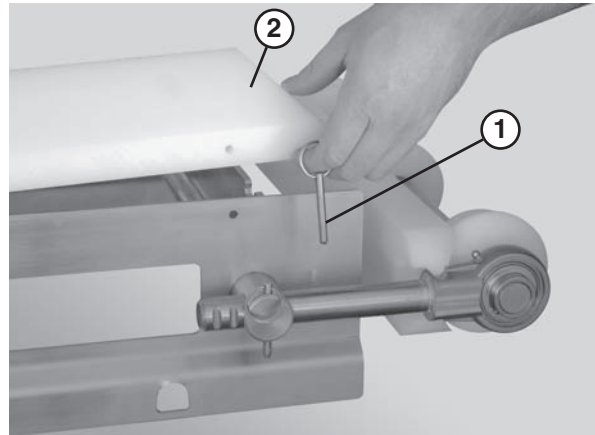

Figure 44
1. Remove the pull pins (Figure 44, item 1) that connect the guides (Figure 44, item 2) to the frame.